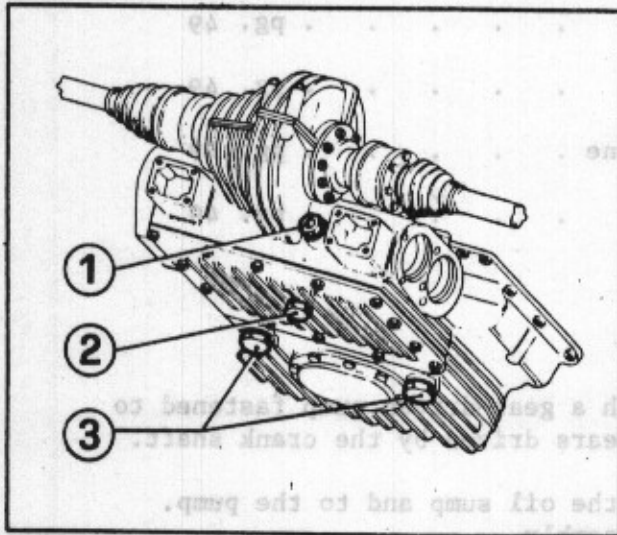

Fig. 31. Position of drain and filler plugs. (engine and gearbox-differential)
Every 10,000 Km, when the engine is hot, drain the oil by removing the three (3) drain bolts below the sump (fig. 31).